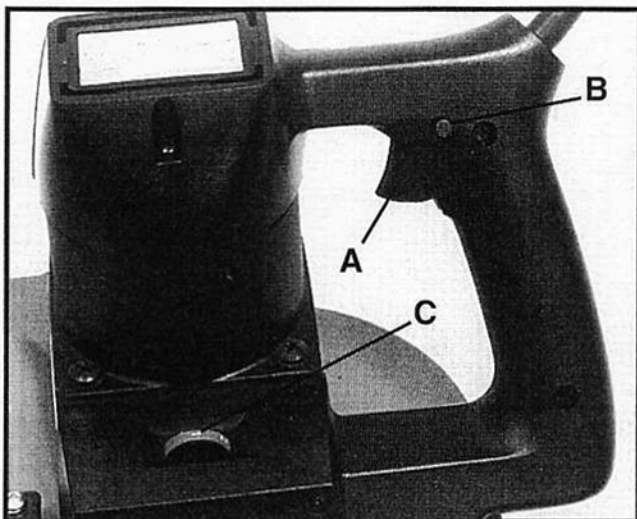

Fig. 1
2. Squeeze trigger switch (A) Fig. 1, to start motor. Release trigger to stop motor.
3. A lock button (B), Fig. 1, is provided to keep the saw running without holding the switch trigger "ON". To lock the switch trigger "ON", squeeze the trigger as far as it will go and push in the lock button and release trigger.
4. is equipped with an adjustable variable speed control. The speed is adjusted by turning the control knob (C), Fig. 1.